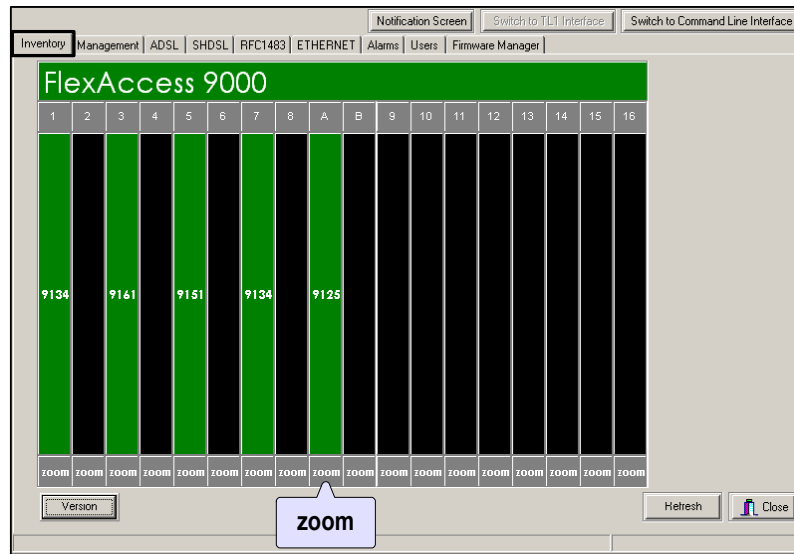

Figure 28 – 'Inventory' screen
*The main **Inventory** screen (Figure 28) appears.*